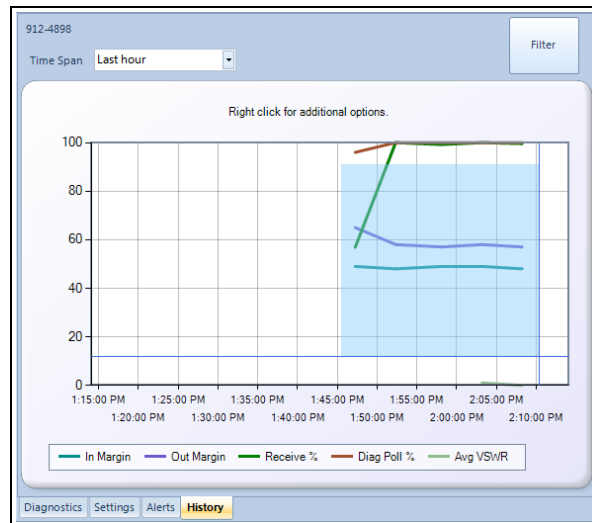

Figure 50: Trend Analysis dialog box
2. Drag the mouse across the entire area to zoom. Figure 50